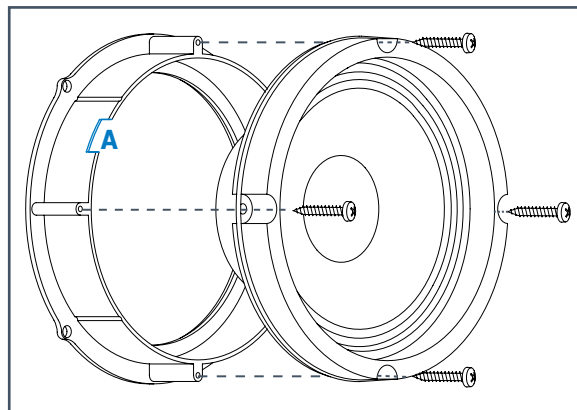

Fig. 27
10.3.1 Pass the power supply cable through slot **A** (Fig. 27) and fasten the speaker using the screws supplied with the KIT.